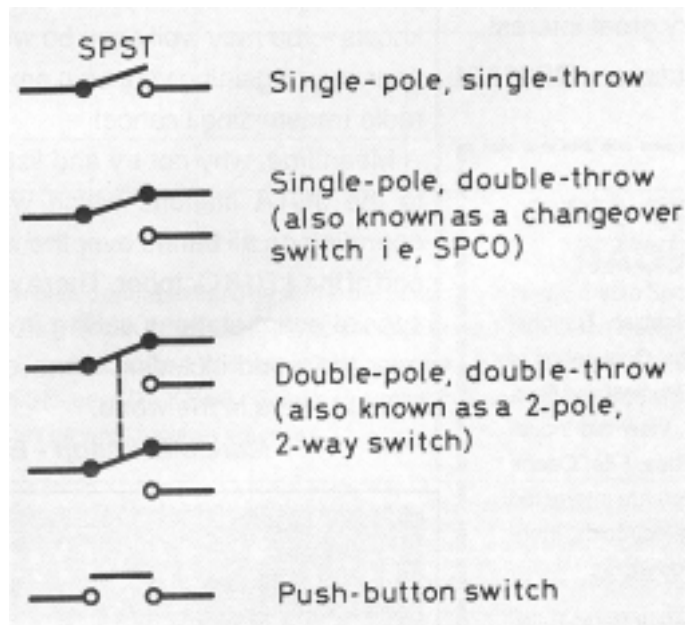

Figure 1 Some circuit symbols for different types of switch
2. **Number of poles.** A single switch can control many circuits; the number of poles tells you *how many* different circuits it can handle. See Figure 1.
3. **Number of throws.** This tells you the number of positions each pole can have. This is best illustrated in Figure 1. The simplest ON/OFF switch is a Single-Pole, Single-Throw (SPST) switch. A Single-Pole,
Double-Throw (SPDT) switch may also be used as an ON/OFF switch, but is used mainly to change between two parts of a circuit, and is commonly known as a Single-Pole Change-Over (SPCO) switch. Two or more SPCO switches can be operated at once; Figure 1 shows an example. The two switches are said to be *ganged*. See also 'Types of switch' below.